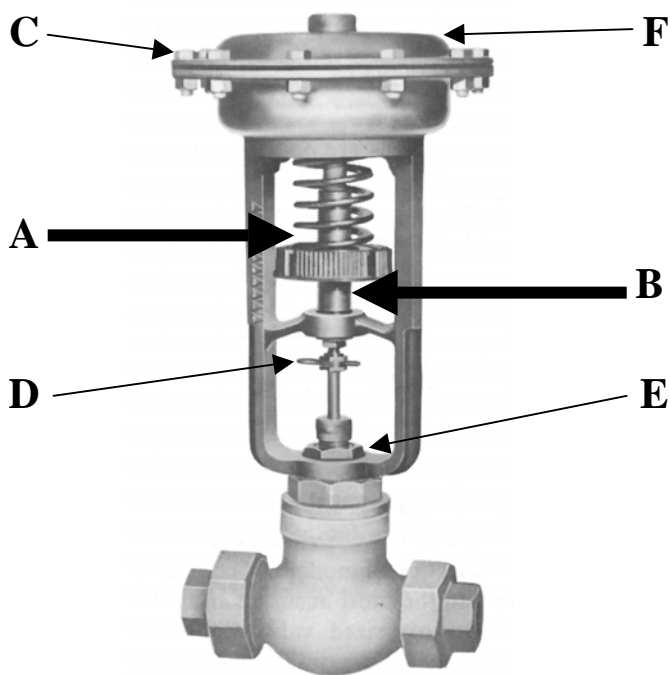

Figure 5
To RAISE pressure setting, turn adjustment wheel to RIGHT (see Arrow "A", Figure 5).
To LOWER pressure setting, turn adjustment wheel to LEFT (see Arrow "B", Figure 5).
A. UPPER WORKS REMOVAL & INSTALLATION (See Figure 5):
2. Turn the handwheel to the left (See arrow "B") to lessen the load on the lock pin (D) and remove the lock pin. Do not disturb the upper works connector.
3. Remove locknut (E) and lift upper works from valve.
- a. Place the upper works on the valve and secure with locknut (E).
- c. Turn the handwheel to the left (See arrow "B") to align the holes in the upper works connector and the valve stem. Insert the lock pin (D).
To remove diaphragm, follow steps listed below (See Figure 5).